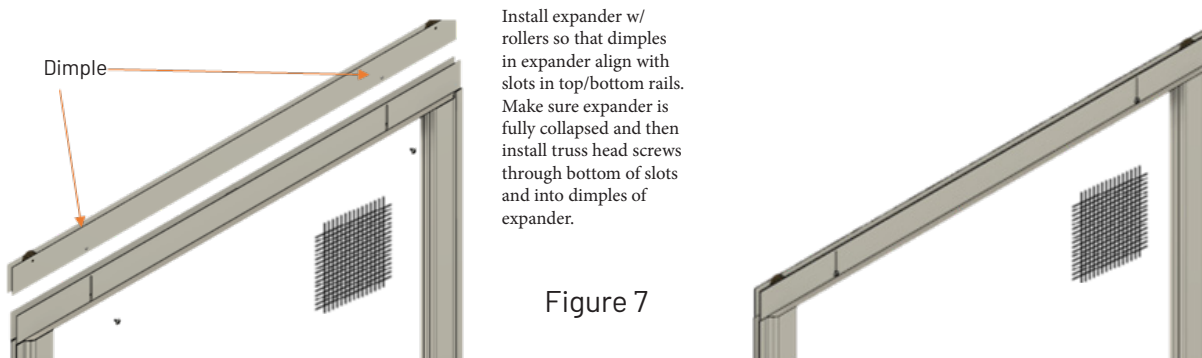

Figure 7
2. Then, place expander with rollers over the tension spring and into the top/bottom rail (FIG. 7). Make sure that the (2) round "dimple" marks near the bottom of the expander align with the (2) long slots in top/bottom rail.